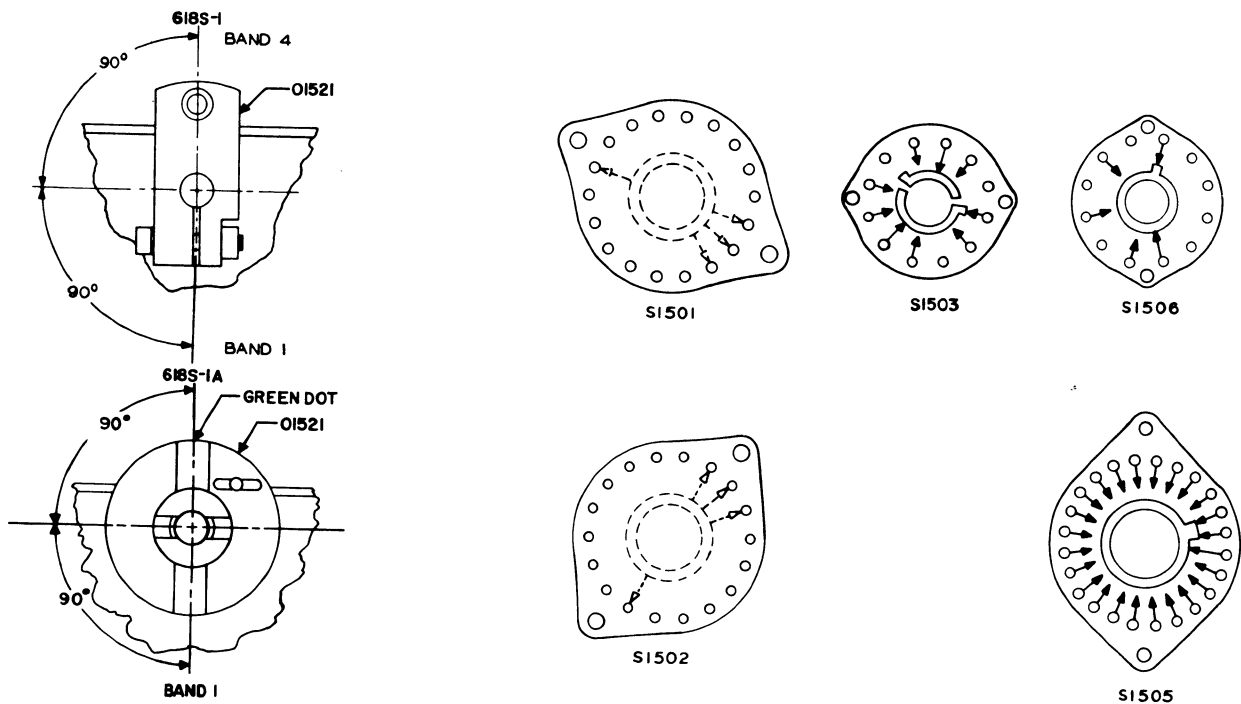

Figure 6-17. Power Amplifier, Correct Switch Alignment, Band 4
c. Set S1503 in the band 4 position. Refer to figure 6-17. Position clamp O1521 end switches S1501, S1502, and S1506 as indicated in figure 6-17. To accomplish this, it may be necessary to loosen setscrews in clamp O1521, gear O1513, and coupler O1525.
b. Rotate inductor L1502 until switch S1505 is in the position shown in figure 6-17.